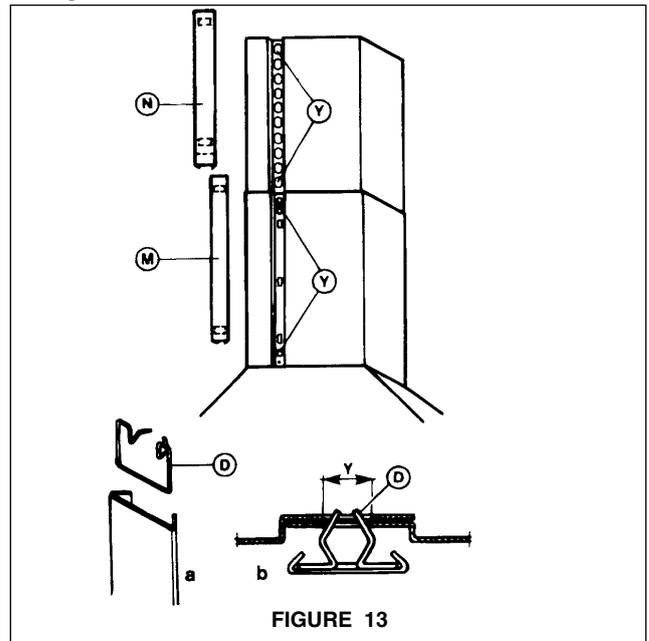

FIGURE 13
9. Trim strips are supplied to cover the seam in the chimney cover. Each strip attaches to the chimney cover as illustrated in **FIGURE 13**. The strips (**M and N**) are held in place by clips (**D**) which fit into the holes (**Y**) in the chimney. It may be necessary to cut the upper trim strips to the proper length before installing. Be careful not to bend the trim strips when cutting.